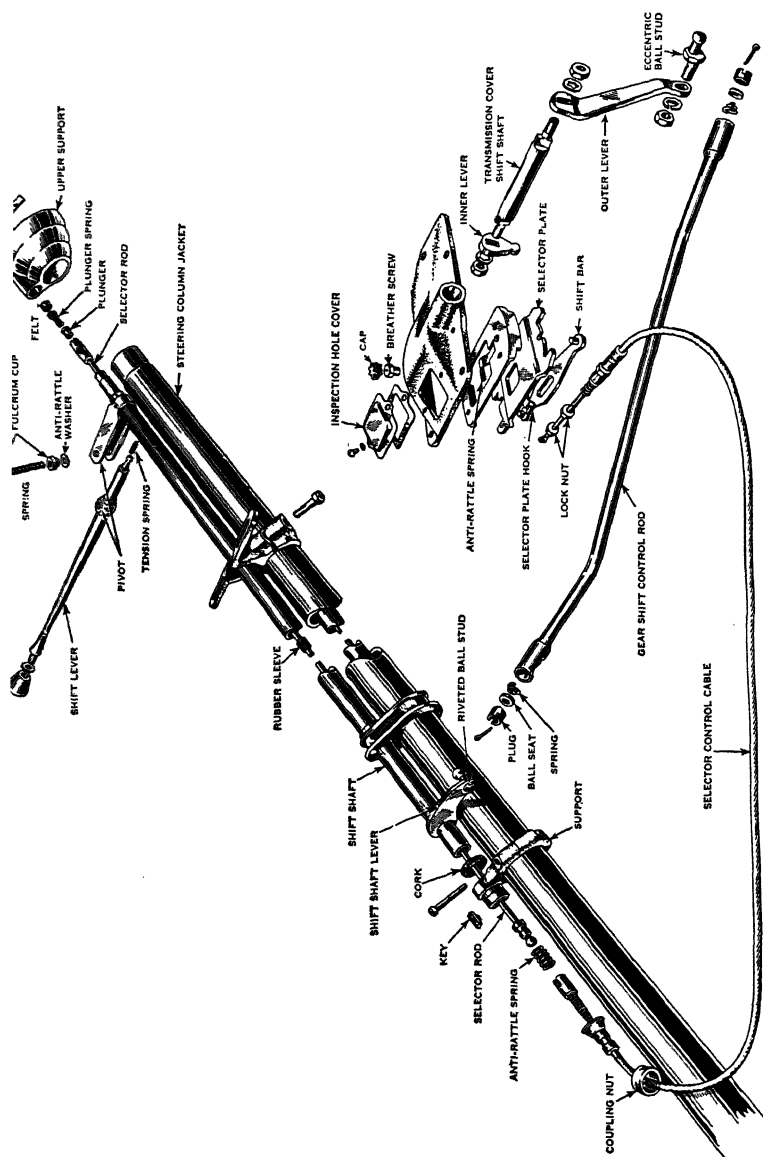

Fig. 5. Details of Pontiac Optional Gear Shift Control
To give the front seat passengers more space and leg room in the Pontiac car, an optional gear shift mechanism has been designed by the Pontiac engineers. This consists of a gear shift lever below the steering wheel which swings about the shift shaft held parallel with the steering column, Fig. 5. The following description of the optional gear shift has been courteously supplied by the Pontiac Company.
below the steering wheel which swings about the shift shaft held parallel with the steering column as shown in Fig. 5.
**Selector Linkage.** The gear shift lever is pivoted in the housing at a point approximately  $\frac{3}{4}$  of its length from the outer end. The inner end of the gear shift lever, shown in Fig. 5, terminates in a ball joint. Motion of the gear shift lever parallel to or in line with the steering column moves the selector control rod up or down inside the hollow shift shaft. The lower end of the rod is connected to the selector control cable which runs into the transmission case and is attached to a hook on the selector plate.
**Selector Position Adjustment.** The selector control cable is attached to a hook on the selector plate inside the transmission case. Adjustment is made by turning the lock nuts on the end of the cable which attach it to the hook. See Fig. 5.